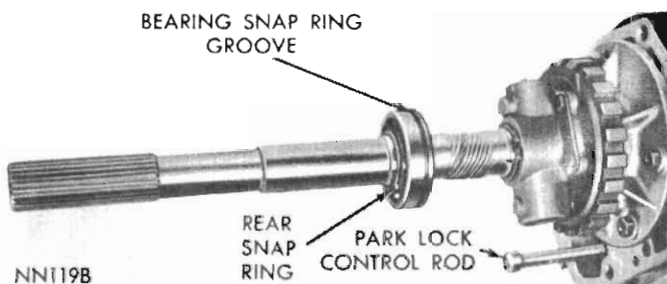

Fig. 38 - Output shaft bearing
(1) Using heavy duty snap ring pliers, remove output shaft bearing rear snap ring and remove bearing from the shaft (Fig. 38).
(2) Install a new bearing on shaft with outer race ring groove toward front (Fig. 38), then install rear snap ring.